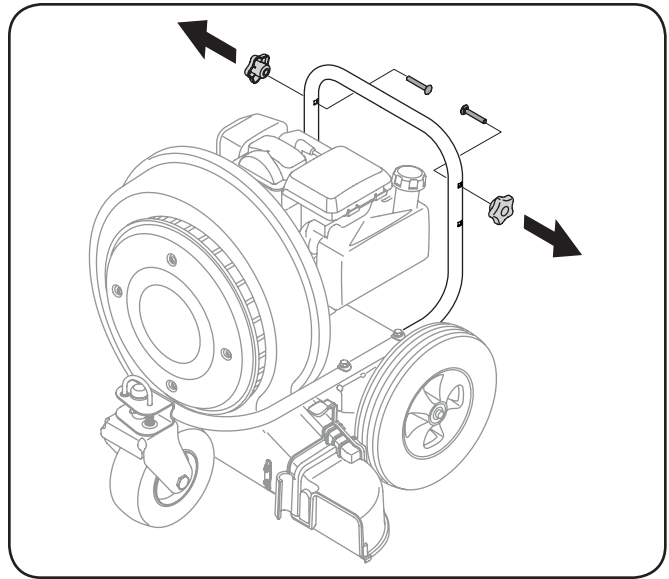

Figure 3-1
1. Remove the carriage screws and star knobs from the upper holes in the lower handle. See Fig. 3-1.